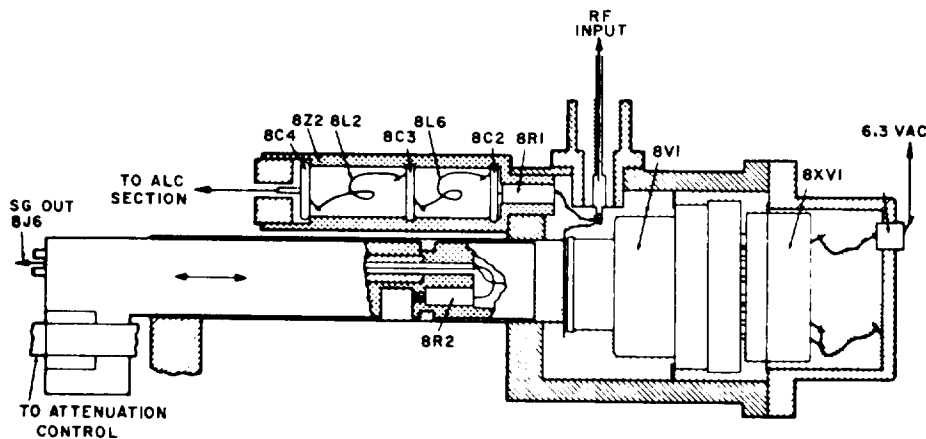

Figure 4-38. ALC/Attenuator Assembly 8A2, Cutaway Drawing
2. ALC RECTIFIER. - ALC Rectifier 8V1 in the ALC/Attenuator Assembly 8A2, is a part of the automatic level control system. The purpose of the ALC system is to maintain a substantially constant rf oscillator output level for a given setting of the ATTENUATION dial over the entire oscillator frequency range of 925 to 1225 megahertz. A functional view of ALC/Attenuator Assembly 8A2 is shown in figure 4-38.